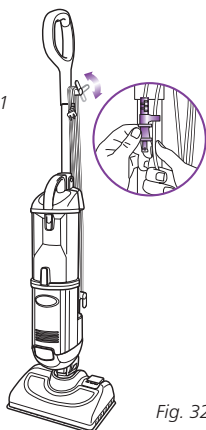

Fig. 32
- 5 Wrap the cord around cord holders and secure the plug. (Fig. 32)